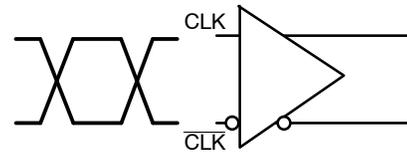

Figure 6. Differential Inputs Driven Differentially
**DIFFERENTIAL INPUTS DRIVEN DIFFERENTIALLY** (Figures 6 and 8)